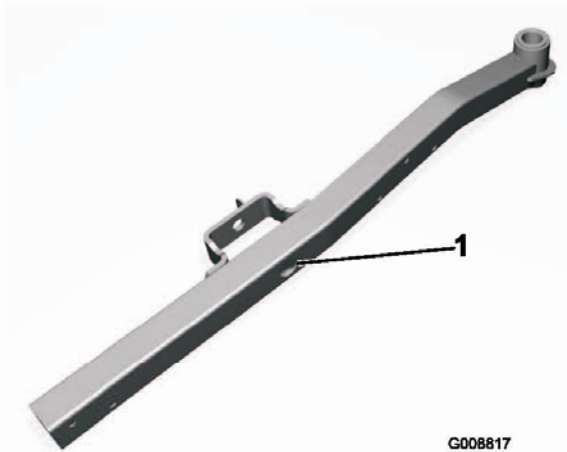

Figure 1
1. Locate the holes on the castor arm shown in Figure 1.